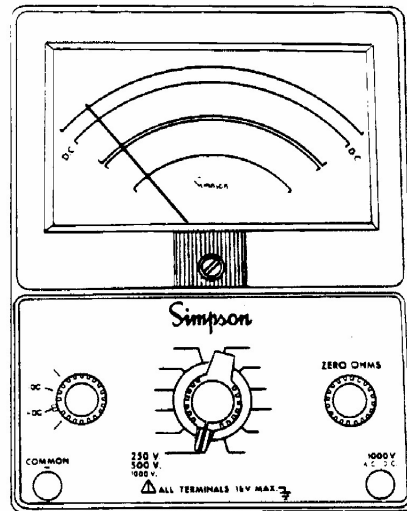

FIGURE 4-3. JACKS AND SWITCH POSITIONS FOR MEASURING DC VOLTAGE, 0-1000 V RANGE
- Set the function switch at +DC (Figure 4-3).